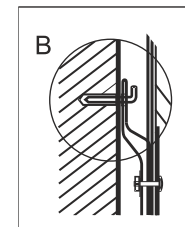

Fig. 3
1. After you have chosen a proper place to install the water heater determine points for holes for anchor bolts with hooks. Distance between expansion bolts must be 200 mm. Drill two holes of corresponding depth in the wall using a drill dimensionally fit for anchor bolts delivered together with the water heater. Insert bolts. Tighten nuts securely turning the hooks upwards. Then hang the electric water heater on these hooks (figure 3).